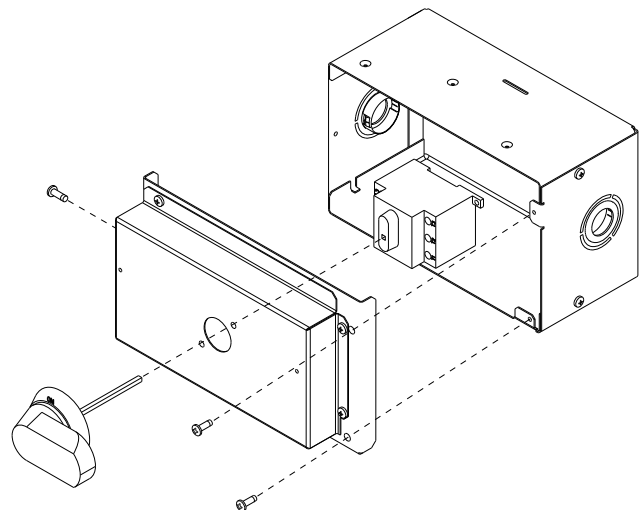

Fig. 33 — NFD Handle and Shaft Assembly
5. Insert the shaft with the cross pin on the top of the shaft in the horizontal position. See Fig. 33.
10. Secure the handle to the painted cover with (2) screws and lock washers supplied.
11. Engaging the shaft into the handle socket, re-install (3) hex screws on the NFD enclosure.